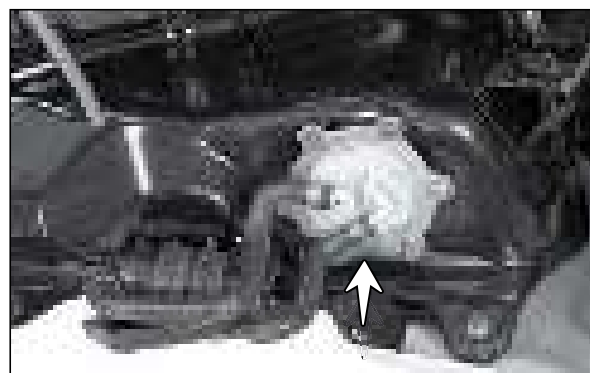

Fig. 5.67
- The fuel level sensor is in fuel pump module, it is fitted at the bottom of the fuel tank. (Fig. 5.67)
- Inspect the fuel sender unit for continuity with pocket tester by connecting '+ve' lead of pocket tester to green yellow wire (GY) and '-ve' lead to the black white wire (BW).